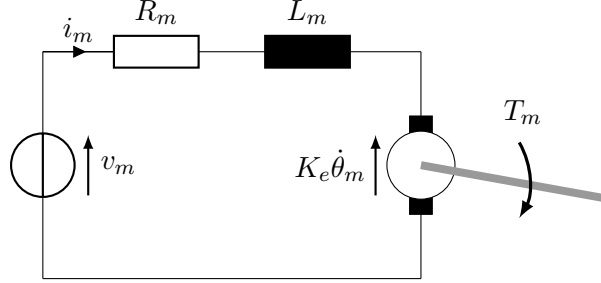

Figure 6: Schematic representation of a DC motor. Here θ_m indicates the angle of the motor (that, in our case, will be a function of θ_w and $\theta_b \dots$)
The final step is to express the torque T_m as a function of v_m , so that we can modify (6) to arrive to our final (3). Consider then that our motor is a Direct Current (DC) motor schematizable as in Figure 6.